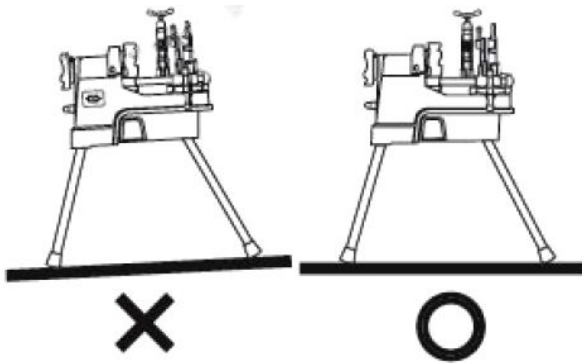

Fig 1
3. Insert the pipe into the Threading Machine so that the end to be worked or the cutting mark is located about 12 inches to the front of the speed chuck jaws (*Fig 1*).